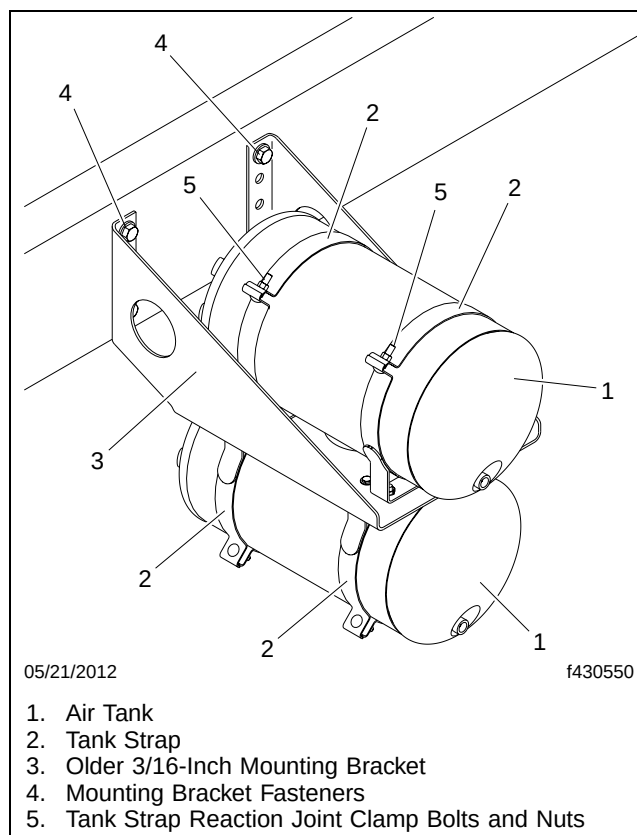

Fig. 3, Perpendicular Air Tank Installation
6. Remove each air tank, as follows. Refer to **Fig. 3** for this procedure.